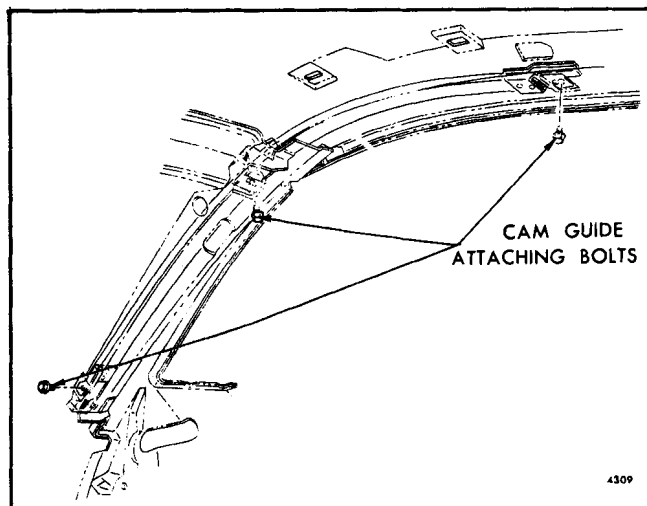

Fig. 9-15-Tail Gate Window Left Cam Guide Attachment
3. Remove cam guide attaching bolts and withdraw guide from body (Fig. 9-15).